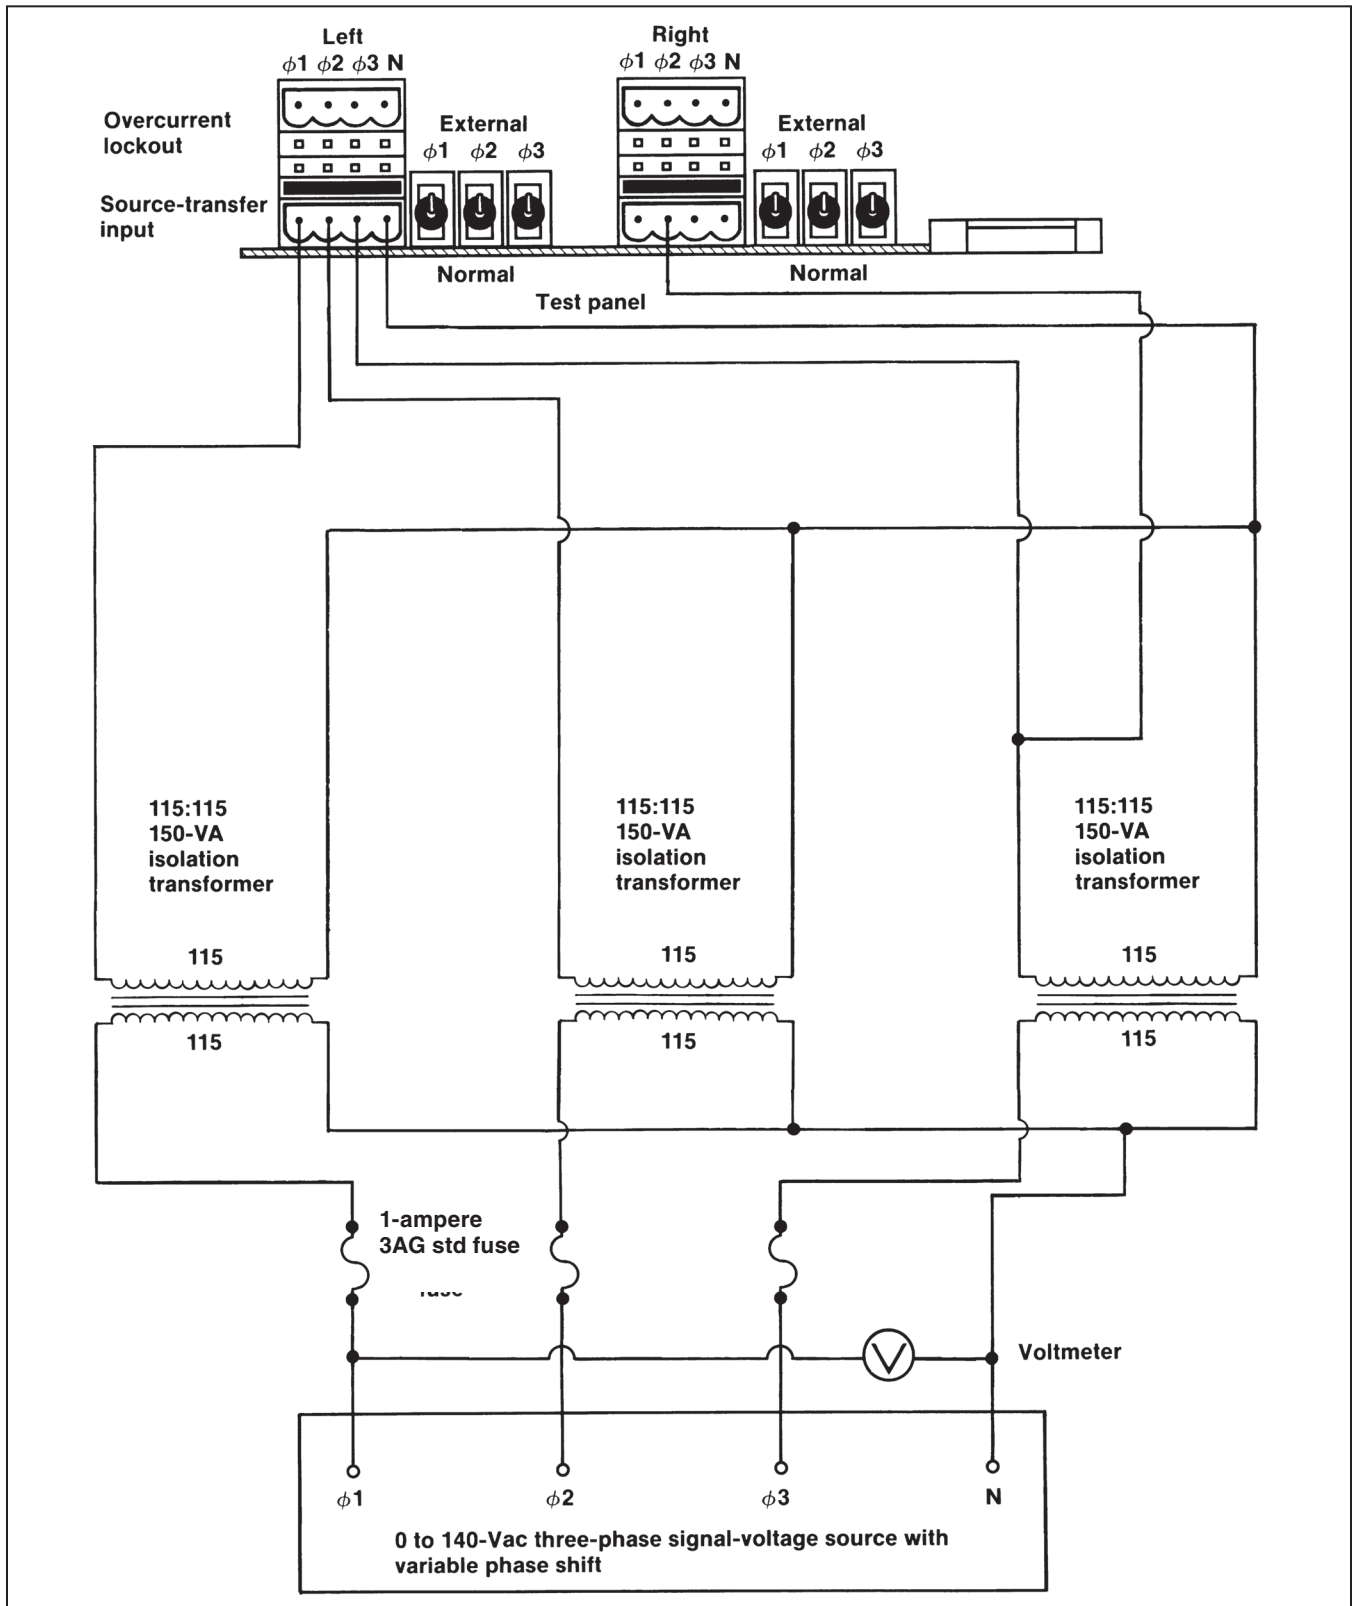

Figure 2. A three-phase source test-circuit connection diagram for metal-enclosed switchgear applications.
- STEP 5.** Place the external/normal selector switches on the test panel for the left source and the right source in **External** mode. See Figure 2 on page 7.
- STEP 6.** ***For metal-enclosed switchgear furnished with three-phase voltage sensing:*** If a 0 to 140-volt, 60-Hz three-phase signal voltage source with variable phase shift is available, make up the three-phase source test-circuit connections, as shown in Figure 2 on page 7.
If the three-phase source test circuit shown in Figure 2 on page 7 is used: Repeat Steps 12 through 16 for Phase 2 and then for Phase 3.
The following testing steps can be performed only if the three-phase source test circuit shown in Figure 2 on page 7 is used. If a single-phase source test circuit is used, proceed to Step 24.